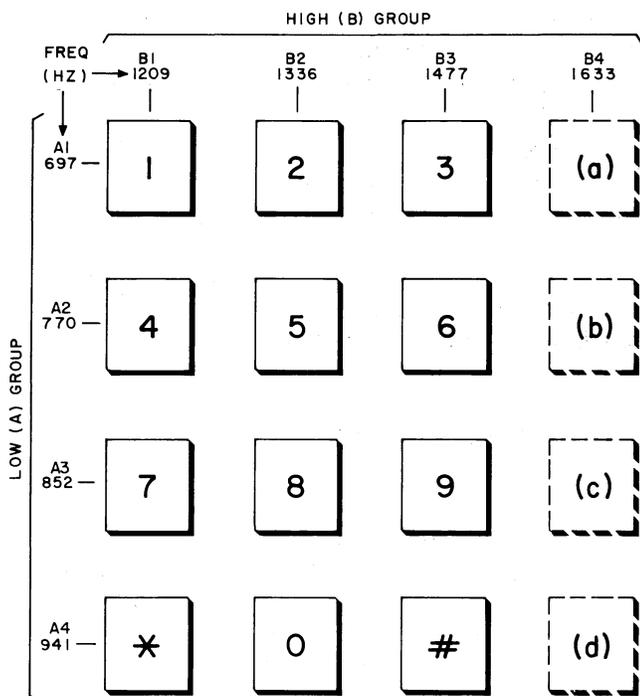

Fig. 8—TOUCH-TONE Dial Frequency Assignments
3.04 The receiver portion of the data set accepts 2-out-of-8 TOUCH-TONE signals. The TOUCH-TONE signals consist of two groups of frequencies, a low group and a high group, each containing four frequencies. These frequencies are grouped and designated as shown in Fig. 8. The receiver detects TOUCH-TONE signals at a maximum rate of ten characters per second. A character consists of one frequency from each group.